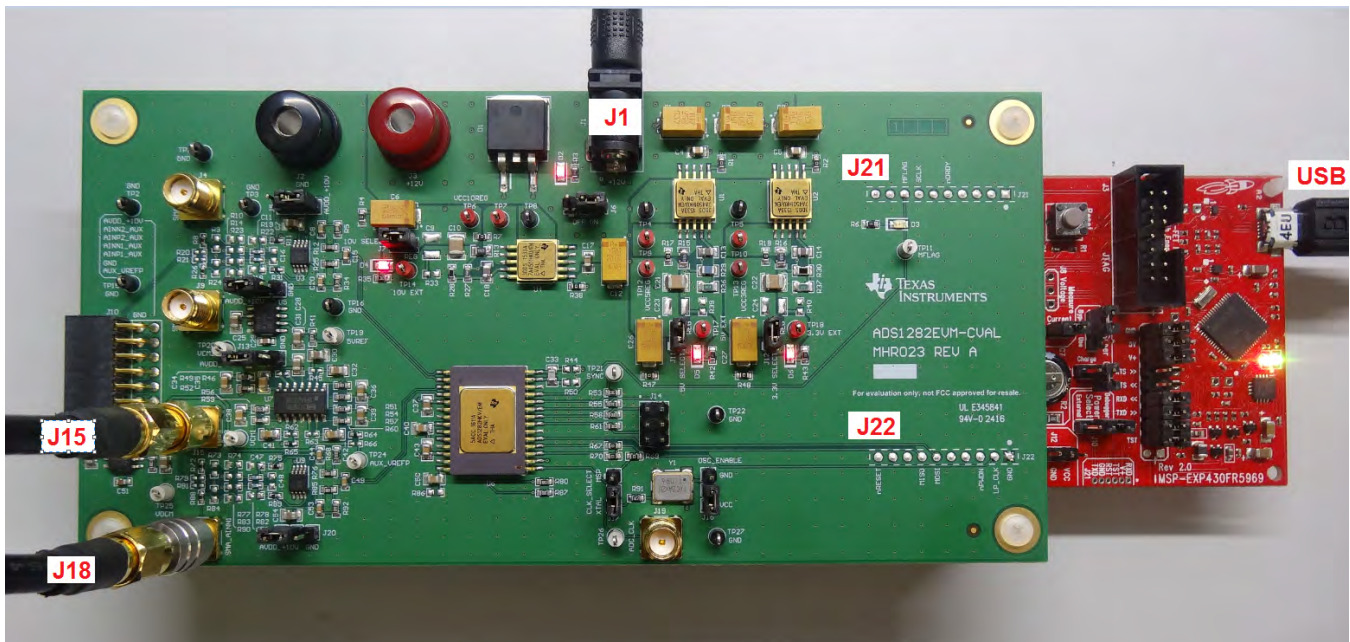

Figure 3. ADS1282-SP+MSP430 LaunchPad Hardware Setup
Figure 3 illustrates the necessary hardware connections to begin testing.
- (A) With care, mate connectors J21 and J22 of the ADS1282EVM-CVAL to connectors J5 and J4 of the MSP430FR5969, respectively.
- (B) Provide power to the ADS1282-SP EVM connecting **either**
- (C) Connect USB to Micro-USB cable (provided with the MSP430 LaunchPad kit) between MSP430 LaunchPad and PC.
- (D) Connect differential analog input signal to SMA's J18 and J15 with either a floating common mode voltage or a 2.5-V common mode voltage. [An AP SYS2722 instrument is used as the signal source in the following examples. **Figure 3** has the outputs turned off in order to measure the noise floor.]